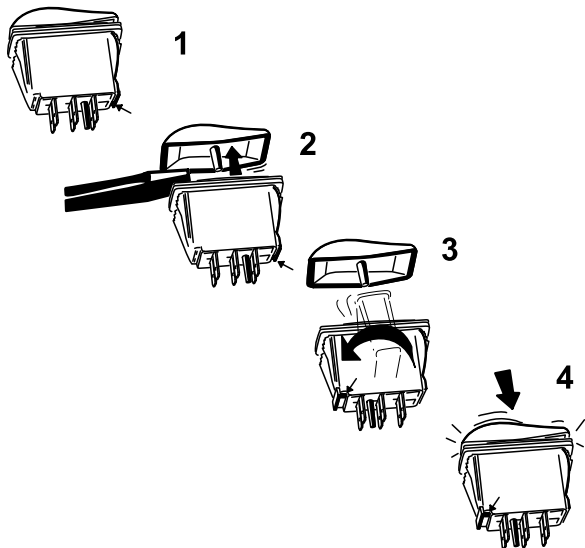

Figure 20
- B. Using a flat head screw driver or similar tool, gently pry the rocker switch covers from the switch bodies (Figure 20).
- C. Holding the switch cover in position, flip the switch body 180 degrees so that the connector notch is front left corner (Figure 20).
- D. Press the rocker switch covers onto the switch bodies in this new orientation until the cover snaps into place (Figure 20).